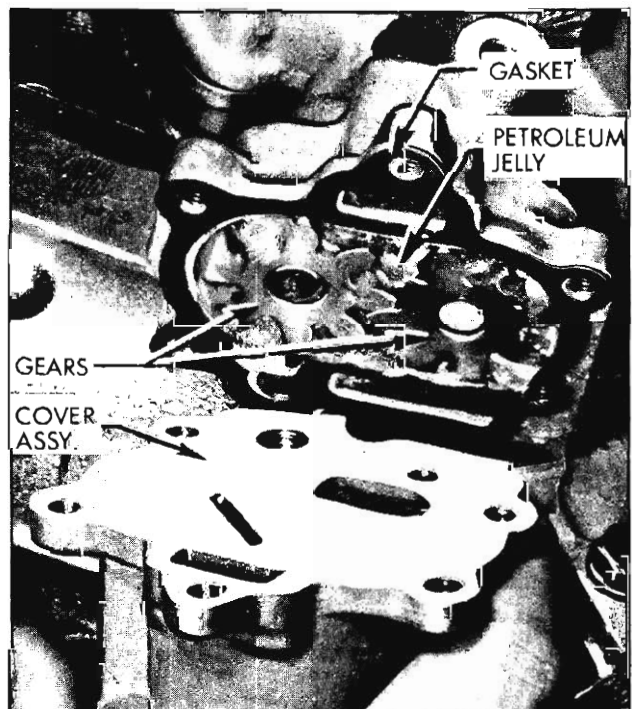

Fig. 3-125 Packing Oil Pump
5. Reinstall gears so petroleum jelly is forced into every cavity of the gear pocket and between the teeth of the gears. Place new gasket in position. (Fig. 3-125)